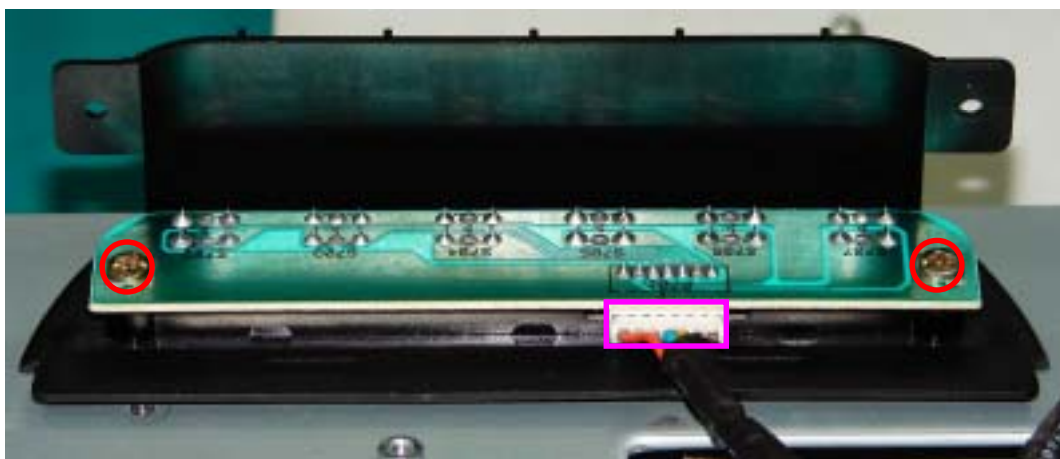

Fig.2
2. Disconnect the wire, loosen 2 screws from Function Board (Fig.2).